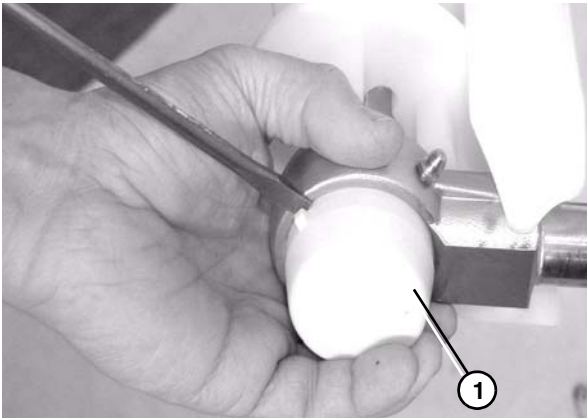

Figure 67
3. Remove the bearing cover (**Figure 67, item 1**).
6. Attach the bearing covers. Reference (Figure 67).